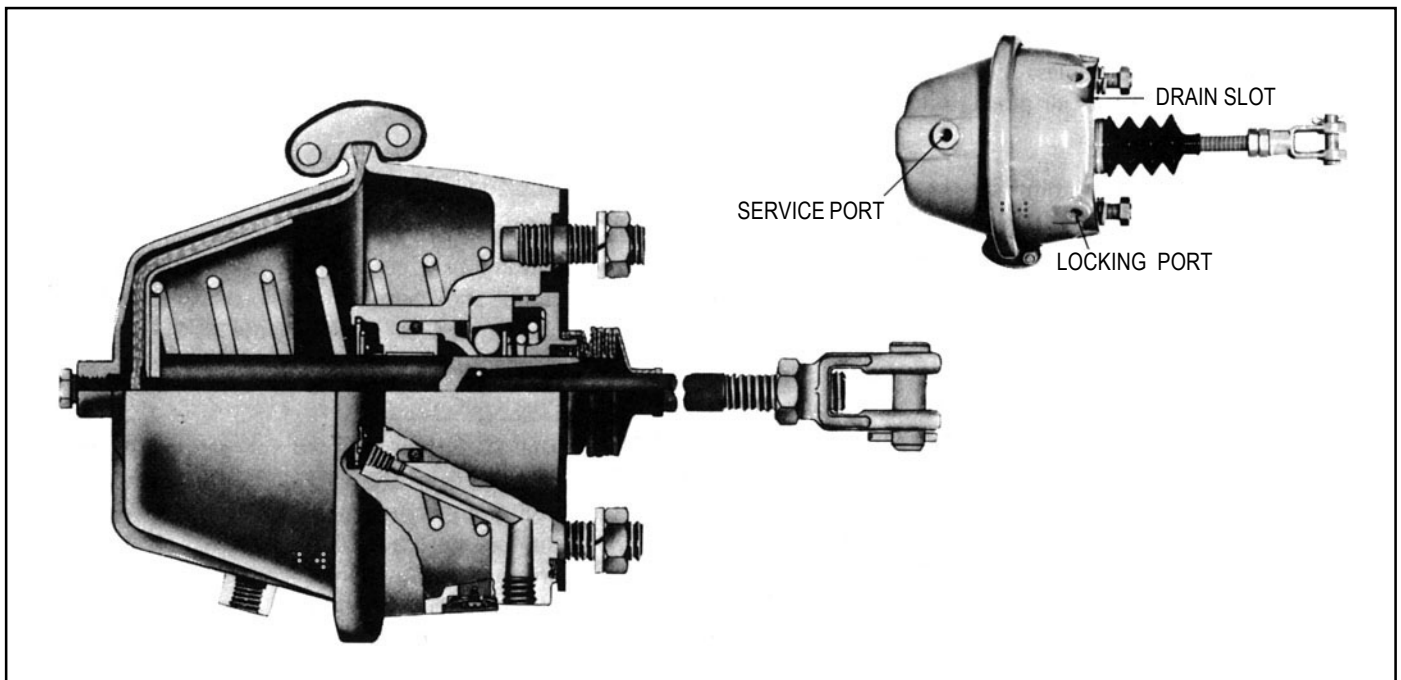
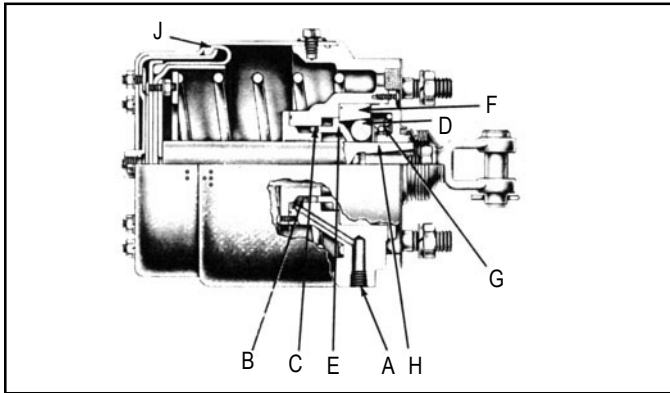

FIGURE 2 - SD-3™ SAFETY ACTUATOR
FIGURE 3
The SD-3™ actuator is a single diaphragm device used primarily on off-highway vehicles. It provides service braking and parking. It is available as a diaphragm type in type 30 (see Fig. 2) and in rotochamber configuration in type 36 and 50 (see Fig. 3).
In normal operation, the SD-3™ or DD-3™ safety actuator is similar to a brake chamber or rotochamber. However, the addition of a locking roller mechanism locks the push rod in the extended position unless the rollers are held out of place by the application of air pressure at the lock port A (Fig. 3).
OPERATION - SD-3™ ACTUATOR (FIG. 3) - NORMAL RUNNING
9. While holding cap assembly down against roller spring tension, completely remove four (4) machine screws, release cap assembly, and remove.
11. Remove roller spring (G), spring seat washer, and eight (8) rollers (F) (Fig. 3).
12. Remove collar (E), piston (C), and piston o-ring. NOTE: If necessary, apply air cautiously at the lock port to assist in removal of the above parts.